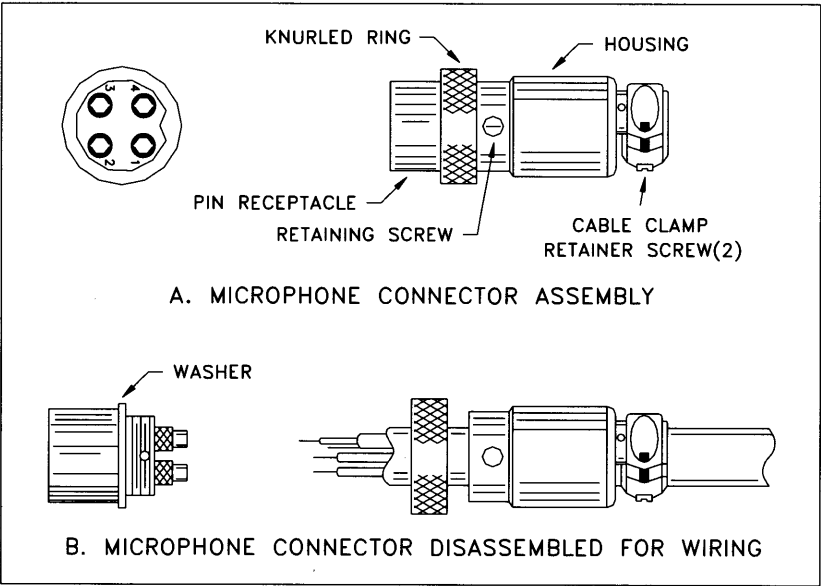

Fig. 2 Microphone plug wiring
- 4. Feed the microphone cable through the housing, knurled ring as shown Figure 2.
6. Be sure that the housing and the knurled ring of Figure 2 are pushed back onto the microphone cable before starting to solder. If the washer is not captive to the pin receptacle body, make sure that it is placed on the threaded portion of the pin receptacle body before soldering.